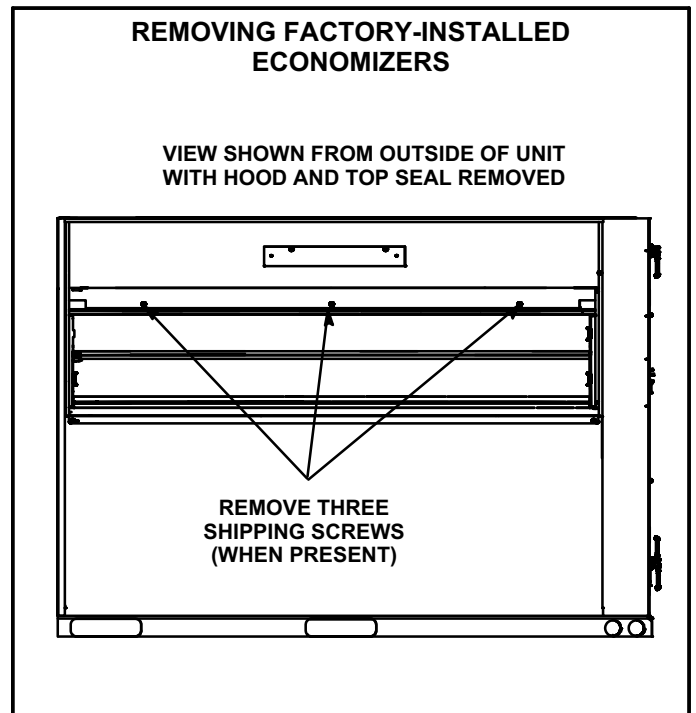

FIGURE 3
Remove three shipping screws (when present) from the economizer before removing from unit. See figure 3. If installed, remove shorter hood filter bracket and filters. Remove and replace filters referring to the Outdoor Air Hood section. Refer to the Installation section to remove economizer from unit.
- 5- Secure hood top stiffener to unpainted side of the hood top with ten screws. See figures 3 and 6.
- 14- Align the two holes on the left hood side with the two holes in the bottom filter bracket. See figures 3 and 7. Secure with screws.
- 17- Secure the top filter bracket (long) to the hood top. See figures 3 and 5. Slide two filters into place.